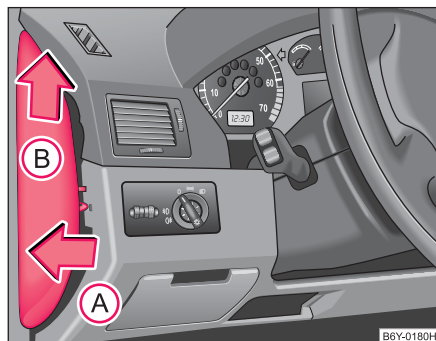

Fig. 151 Left side of the dash panel: fuse cover
- Set the screwdriver under the safety cover (on the recess in the safety cover), lever it up carefully in the direction of the arrow **(A)** and take it out in the direction of the arrow **(B)** ⇒ **fig. 151**.